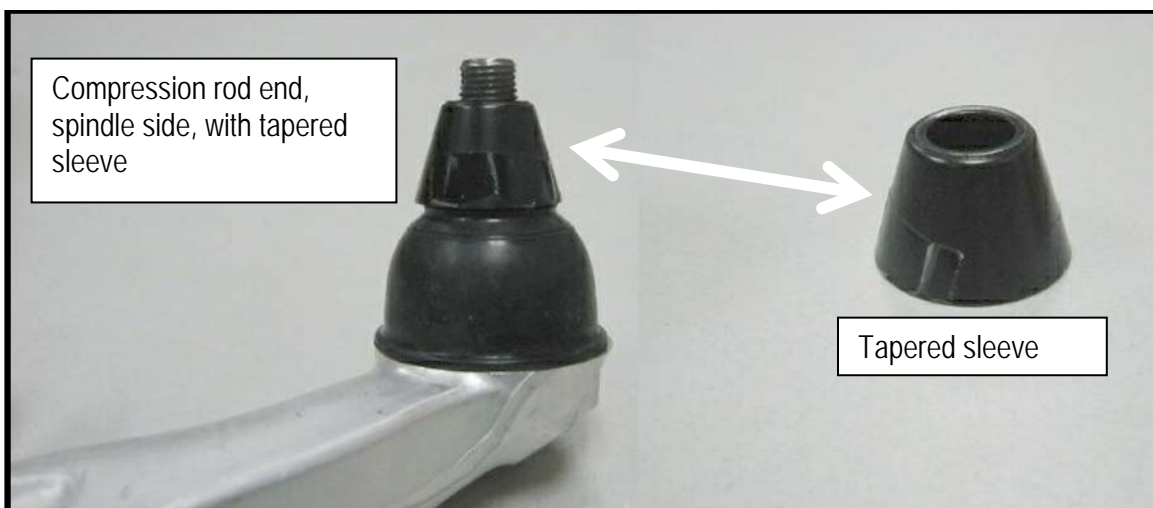

Figure 1
- Re-use the tapered (cone shape) sleeve from the spindle side of the compression rod end (see Figure 1).